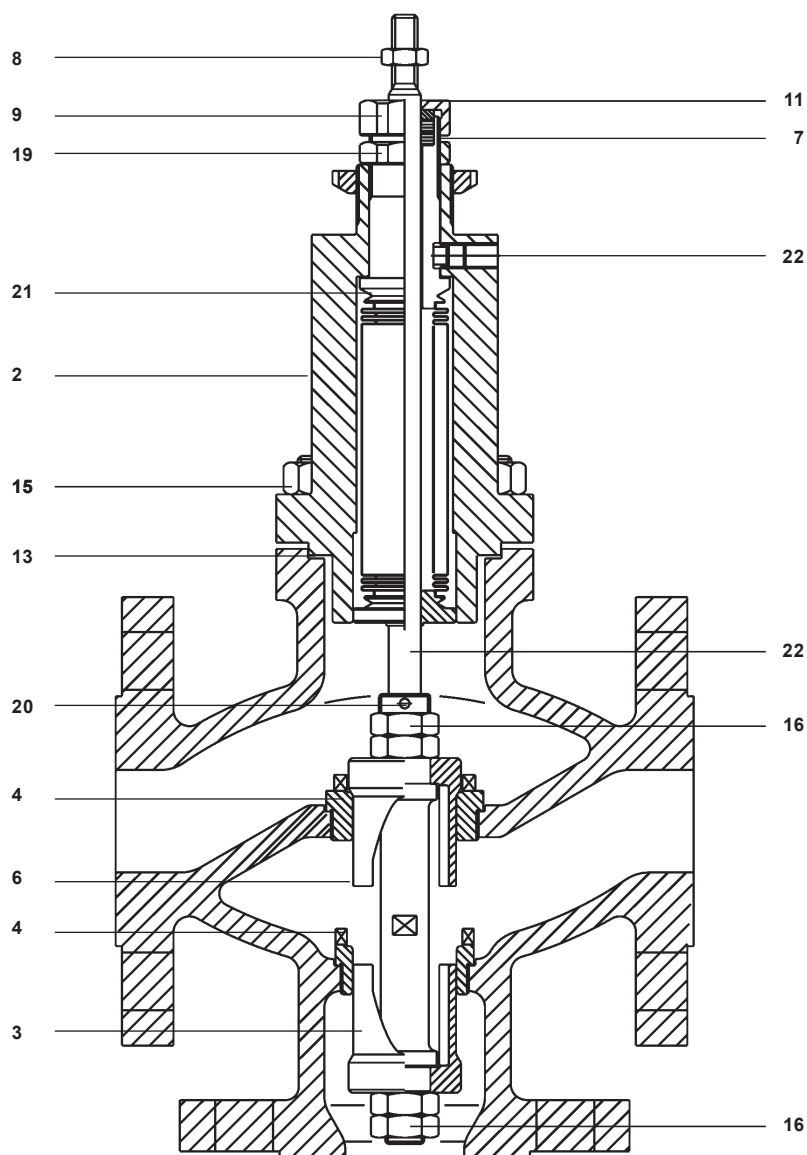

Fig. 12 Diverting Valve
4.3.3 Procedure for renewing valve plug, seats and bellows assembly on diverting valves (Refer to Figure 12)